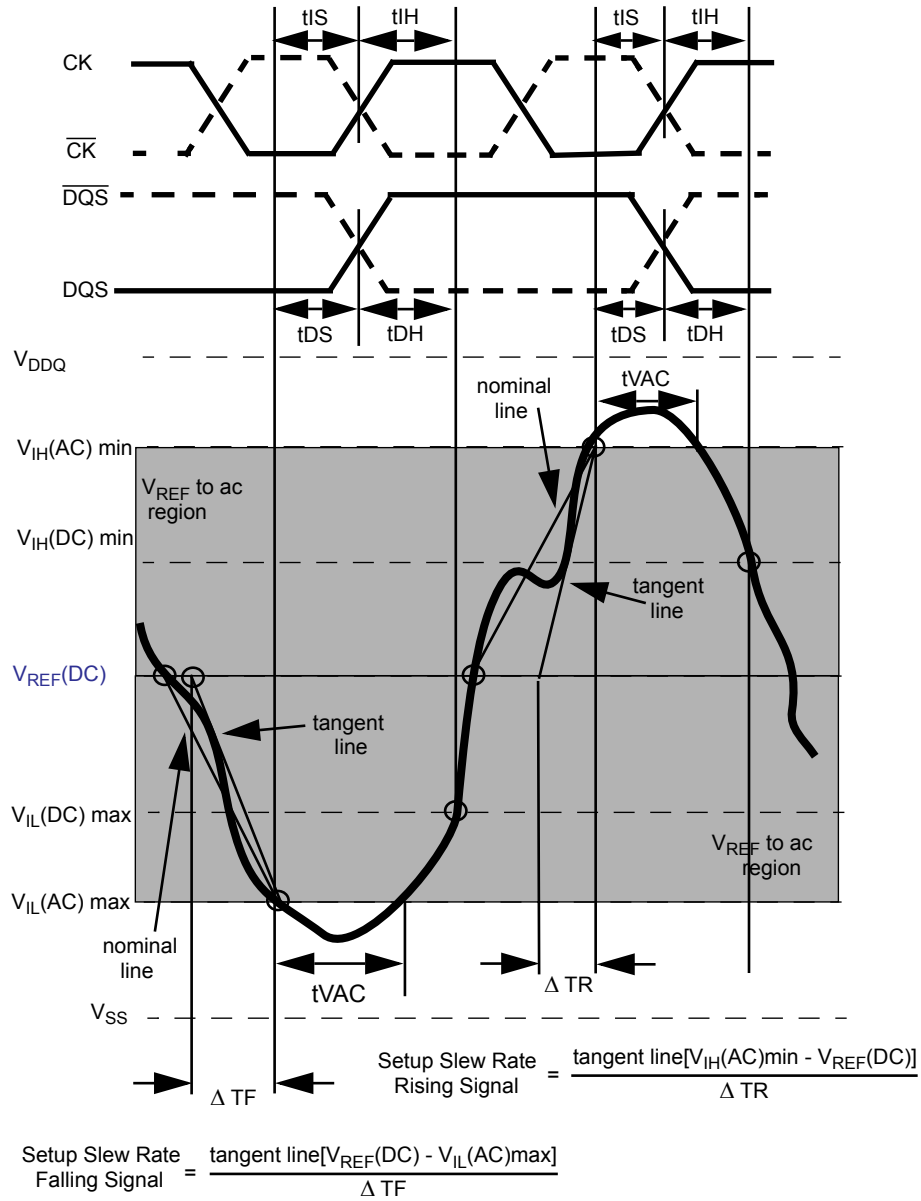

Figure 23. Illustration of tangent line for setup time  $t_{DS}$  (for DQ with respect to strobe) and  $t_S$  (for ADD/CMD with respect to clock)
Example: tIS (total setup time) = tIS(base) + ΔtIS Setup (tIS) nominal slew rate for a rising signal is defined as the slew rate between the last crossing of VREF(DC) and the first crossing of VIH(AC)min. Setup (tIS) nominal slew rate for a falling signal is defined as the slew rate between the last crossing of VREF(DC) and the first crossing of VIL(AC)max. If the actual signal is always earlier than the nominal slew rate line between shaded 'VREF(DC) to ac region', use nominal slew rate for derating value (see Figure 21). If the actual signal is later than the nominal slew rate line anywhere between shaded 'VREF(DC) to ac region', the slew rate of a tangent line to the actual signal from the ac level to dc level is used for derating value (see Figure 23).